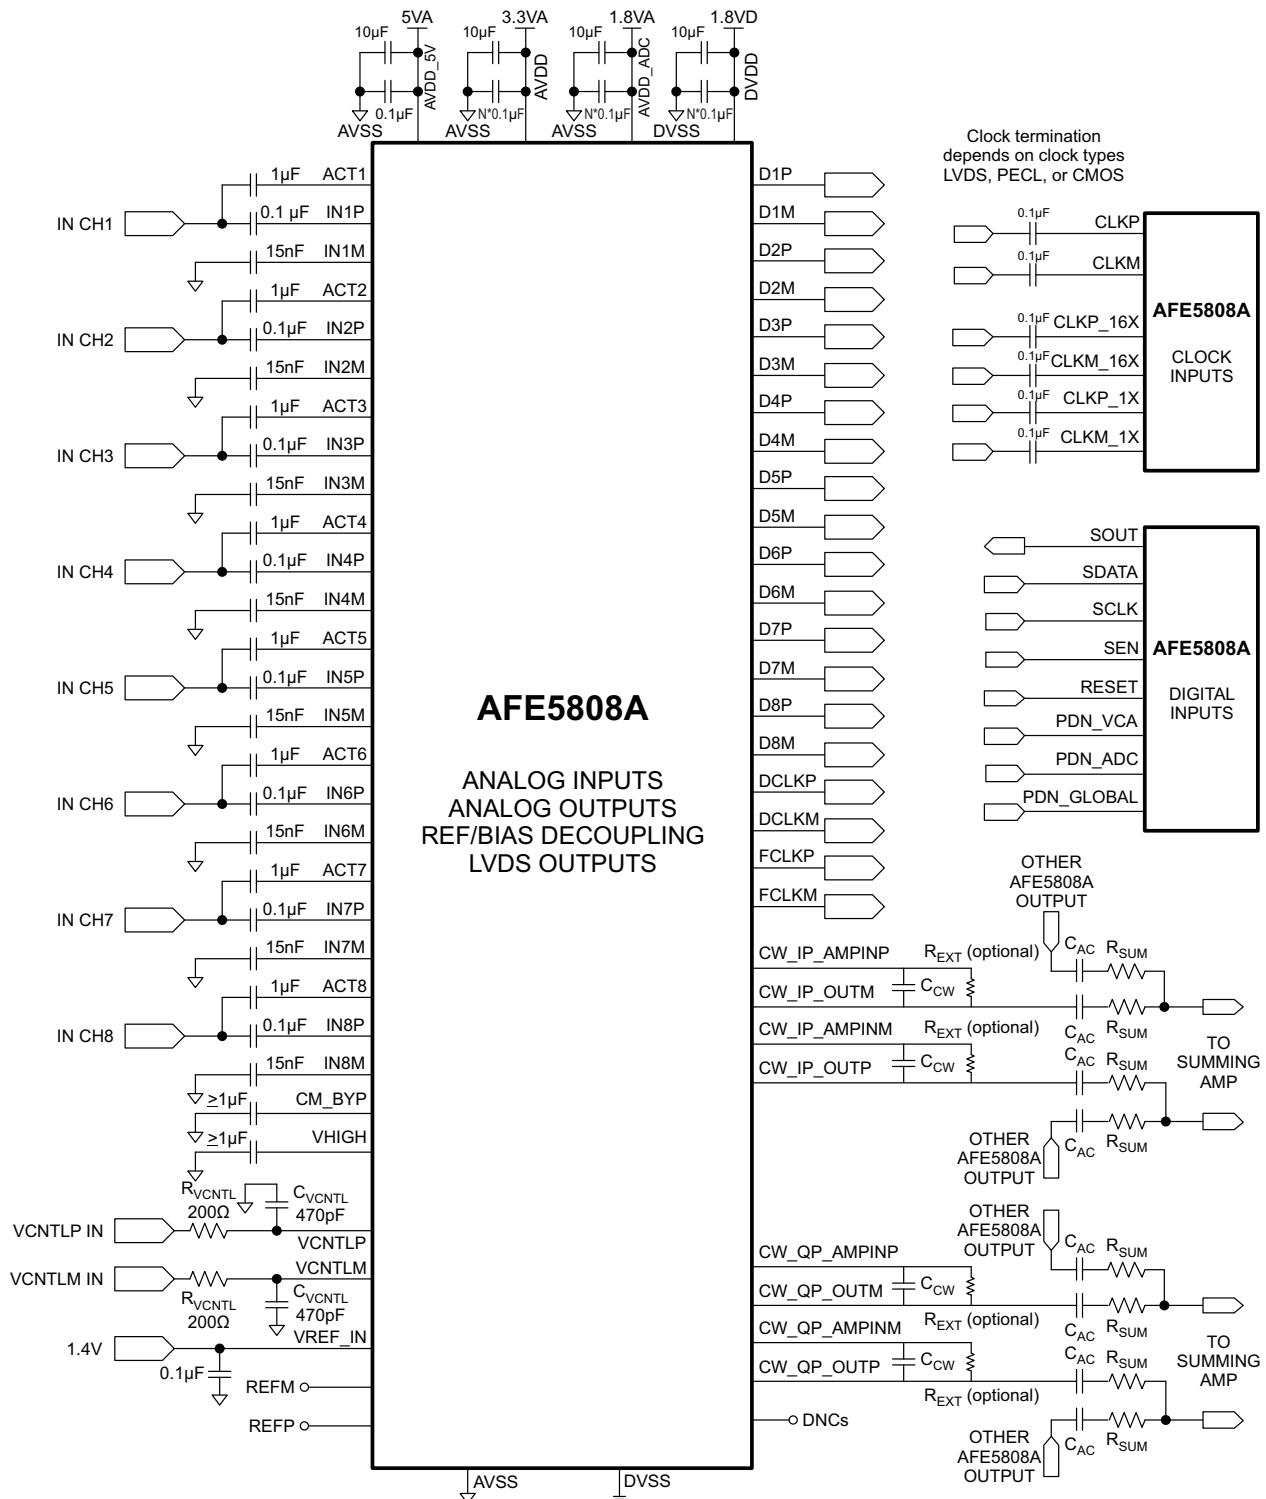

Figure 80. Typical Application Circuit
Figure 80 lists a typical application circuit diagram. The configuration for each block is discussed in the following sections.
The device includes an integrated LNA and VCAT (which use the gain that can be changed with enough time to handle both near- and far-field systems), a low-pass antialiasing filter to limit the noise bandwidth, an ADC with high SNR performance, and a CW mixer. Figure 80 illustrates an application circuit of the device.
4. Select different passive components for different device pins as shown in Figure 80.